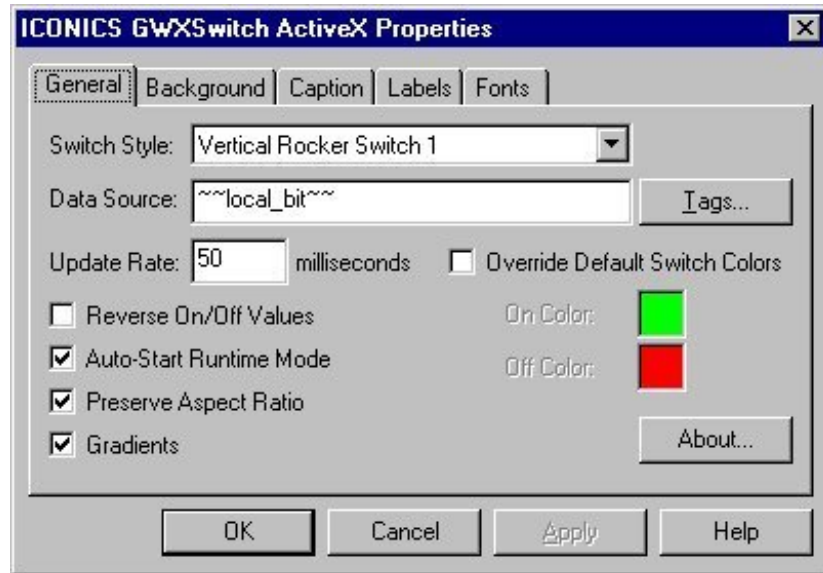

Figure 16-9: GWXSwitch ActiveX Properties Dialog Box: General Tab
1. Double-click on the GWXSwitch ActiveX control. The GWXSwitch ActiveX Properties dialog box appears (Figure 16-9).